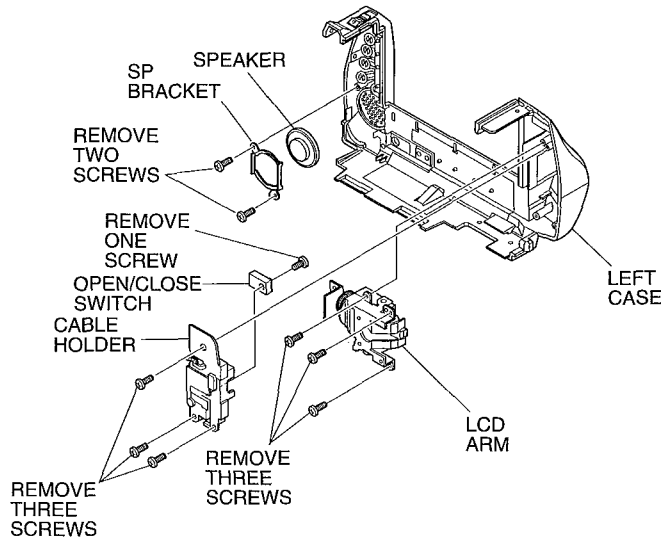

Fig. 2-9
2.8 Cable Holder, Open/Close Switch, Speaker, LCD Arm, Left Case (Fig. 2-9)